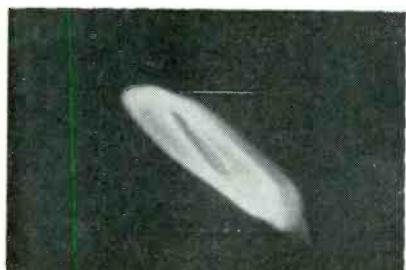

Fig. 3 — Variable amplifier phase shift effects.
**A.** This situation is shown in Fig. 3. It is due to the fact that the video amplifier has different phase shifts at different frequencies.